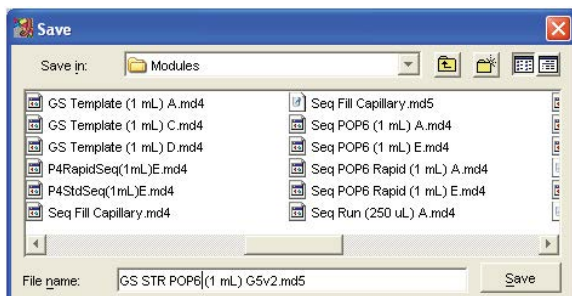

Figure 14. The Save screen.
6. Save the new module in the Modules folder. Change the file name to “GS STR POP6 (1mL) G5v2.md5”, and select “Save” (Figure 14).